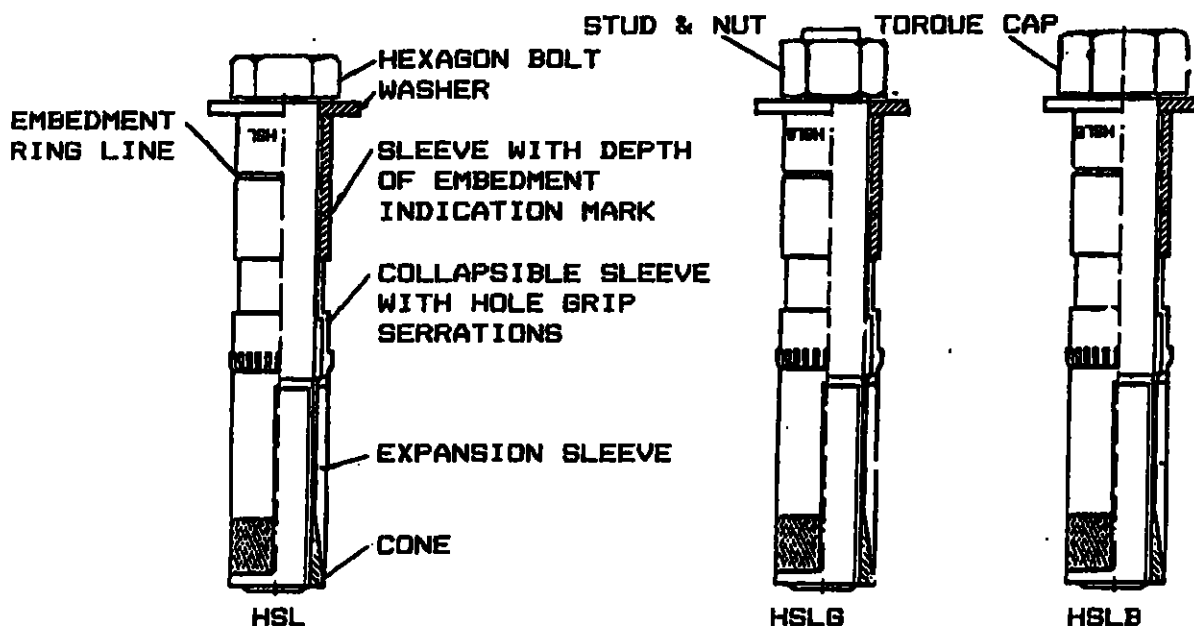

FIGURE 1—HSL METRIC CONCRETE ANCHORS
2.1.1 General: Hilti HSL Carbon Steel and Stainless Steel Metric Heavy Duty Concrete Anchors are Type A (torque-set) anchors. Anchors are available in four styles, three of which are illustrated in Figure 1.